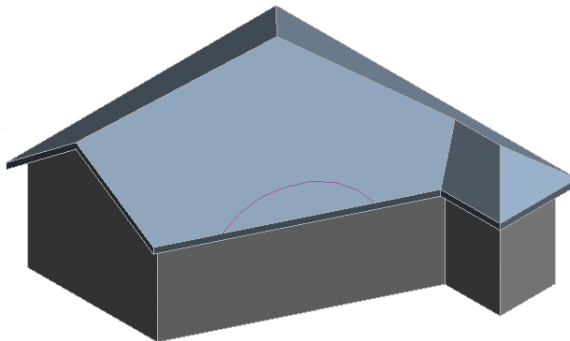

FIGURE 3.25 Creating the arc
4. Create the arc approximately as shown in Figure 3.25. The important detail is that you set Extrusion End in the Properties palette to 20'-0" (6 m).